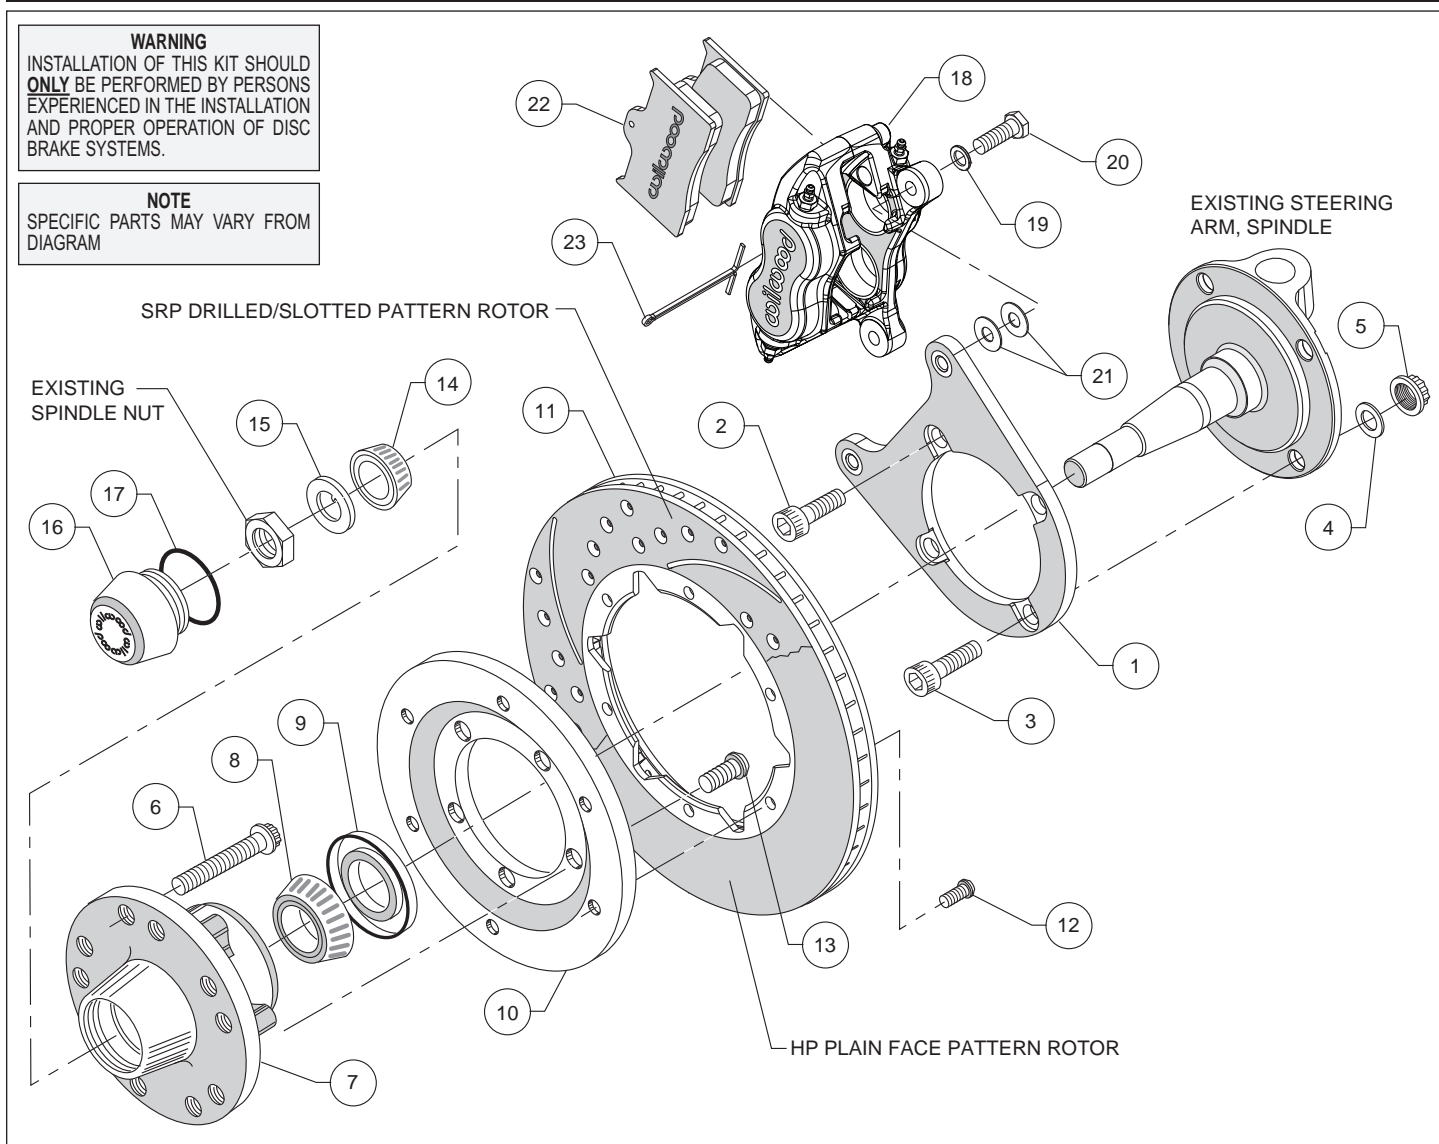
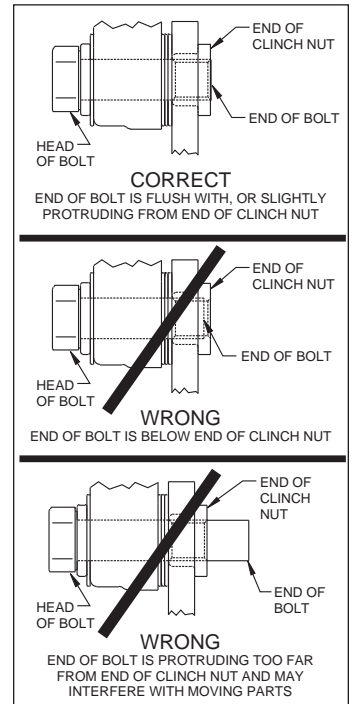

Figure 1. Typical Installation Configuration
Figure 3. Clinch Nut Engagement Diagram
Assembly Instructions (numbers in parenthesis refer to the parts list, on the preceding page and Figure 1): **CAUTION:** All mounting bolts must fully engage clinch nuts. Be sure to check that all bolts are either flush or protruding through flanged side of clinch nut after shimming, Figure 3.
- Orient the caliper mount bracket (1) as shown in Figure 1. Install using bolts (2) threaded into the steering arm and bolts (3), washers (4), and locknuts (5), Figure 1. Ensure that the flanged heads of the clinch nuts in the bracket are facing outboard, Figure 1. Temporarily tighten the mounting bolts. **NOTE:** The bracket must fit squarely against the mounting points on the spindle. Inspect for interference from casting irregularities, machining ridges, burrs, etc. Torque locknuts (5) to 65 ft-lb. Apply red *Loctite*® 271 to the threads of bolts (2) and torque to 80 ft-lb.
- Pack the large inner bearing cone (8) with high temperature disc brake bearing grease (available from your local auto parts store) and install into the backside of the hub (7), Photo 3.
- Install the grease seal (9) by pressing into the backside of the hub (7), flush with the end of the hub, Photo 3.
- Orient the rotor (11) and the rotor adapter (10) as shown in Figure 1 and Photo 4. Attach the rotor to the adapter using bolts (12). Using an alternating sequence, apply red *Loctite*® 271 to the threads, and torque to 25 ft-lb.
- Mount the adapter/rotor assembly (10/11) to the hub (7) using bolts (13), as shown in Figure 1 and Photo 5. Using an alternating sequence, apply red *Loctite*® 271 to the threads, and torque to 45 ft-lb.
- NOTE:** Please reference the caution statement at the beginning of the assembly instructions. Mount the caliper (18) onto the caliper mounting bracket (1) using bolts (20) and washers (19), as shown in Figure 1. Initially place two .035" thick shims (21) on each bolt between the caliper and the bracket, Photo 8. Temporarily tighten the mounting bolts and view the rotor (11) through the top opening of the caliper. The rotor should be centered in the caliper, Photo 9. If not, adjust by adding or subtracting shims between the bracket and the caliper. Always use the same amount of shims on each of the two mounting bolts. **NOTE:** The end of each bolt must be flush with or slightly protruding from the head of the clinch nut, as shown in Figure 3. If necessary place spare shims between washer (19) and caliper mounting ear to achieve the proper clinch nut engagement. Once the caliper alignment and clinch nut engagement are correct, remove the bolts one at a time, apply red *Loctite*® 271 to bolt threads, and torque to 40 ft-lb.